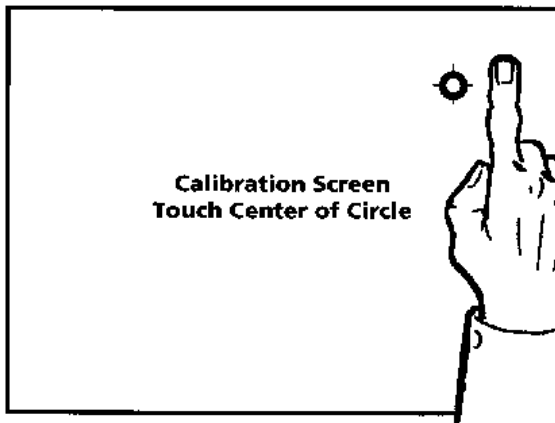

Figure 3a
3. To compensate if the screen is not calibrated accurately, return to the calibration screen. Recalibrate the way you normally would, but don't touch exactly on the center of the dots. This time, touch slightly away from the dot, ***in the SAME direction and approximate distance*** which the dot was off center (see Figures 3a and 3b). For example, if the crosshair comes up slightly below where you touched, when you recalibrate, touch slightly below the calibration dot, if the crosshair appears slightly above and to the right of where you touched, when you recalibrate, touch slightly above and to the right of the dot. This should compensate for the individuality of the touchscreen glass and the way it was mounted on the CRT.